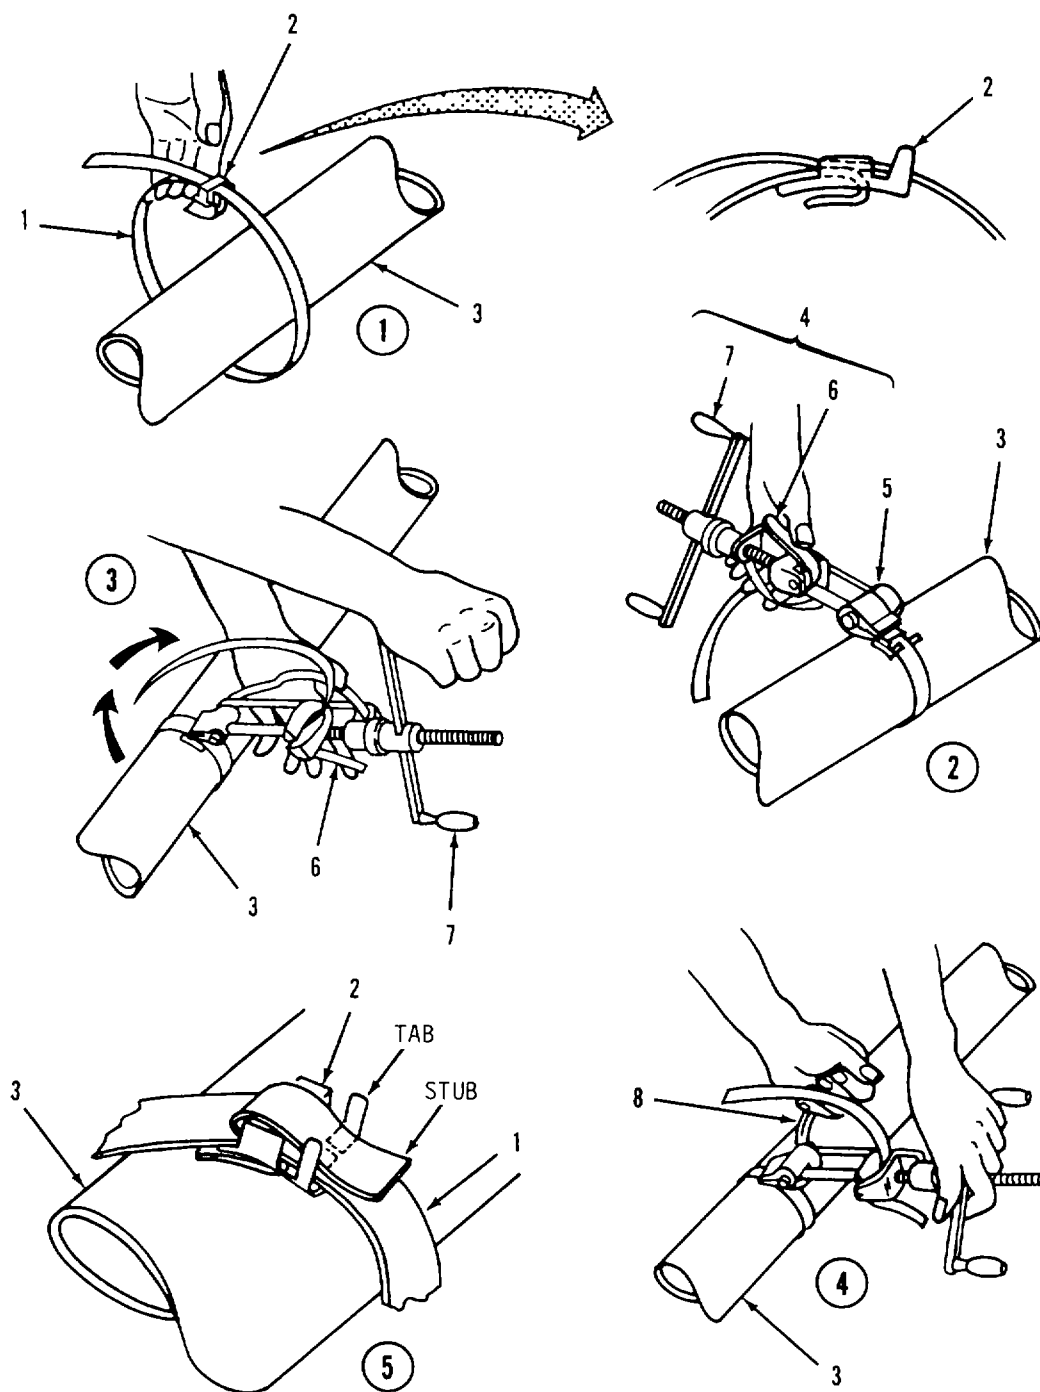

Figure 4-3. Strapping and Seal Installation
- (2) Cut a piece of strapping (1, figure 4-3) 36 inches long.
- (3) Slide seal (2) onto strapping (1) as shown Bend end of strapping under seal.
- (4) Wrap other end of strapping (1) around hose (3) and through seal (2) Position strapping on hose about 1 inch from end of hose.
- (5) Wrap another loop of strapping (1) around hose (3) and through seal (2).
- (6) Position strapping (1) in slots of clamping tool (4). Tool nose (5) should fit snug against seal (2).
- (7) Apply pressure to gripper lever (6) and turn handle (7) until strapping (1) is snug. Tool will lock in place when correct tension is applied. Reposition tool as required.